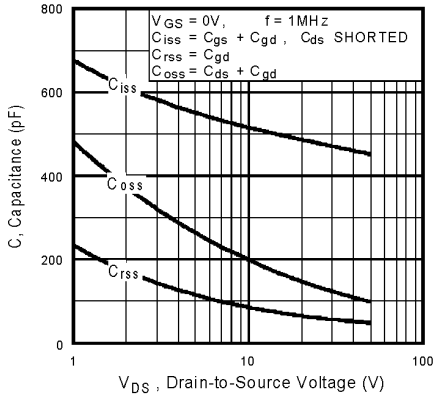

Fig 5. Typical Capacitance Vs. Drain-to-Source Voltage
| C_{rss} | Reverse Transfer Capacitance | — | 61 | — | | $f = 1.0MHz$, See Fig. 5 ⑥ |